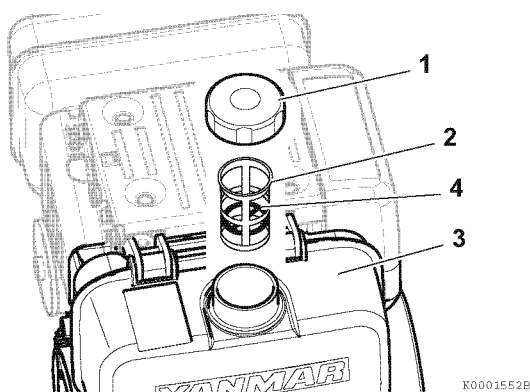

Figure 4-3
*Note: A typical fuel tank is shown in **Figure 4-3**. The fuel tank on your engine may be different. The inlet fuel screen is shown removed from the fuel tank for clarity. Always make sure the inlet fuel screen remains inside of the fuel tank while fueling.*
1. Clean the area around the fuel cap (1, **Figure 4-3**).
2. Remove the fuel cap from the fuel tank (3, **Figure 4-3**).
3. Stop fueling when the fuel is at the same level as the red ring (4, **Figure 4-3**) at the bottom of the inlet fuel screen (2, **Figure 4-3**). Never overfill the fuel tank. Overfilling the fuel tank may allow contaminated fuel to bypass the intake fuel filter by entering through the air bleed hole in the top of the fuel filter.